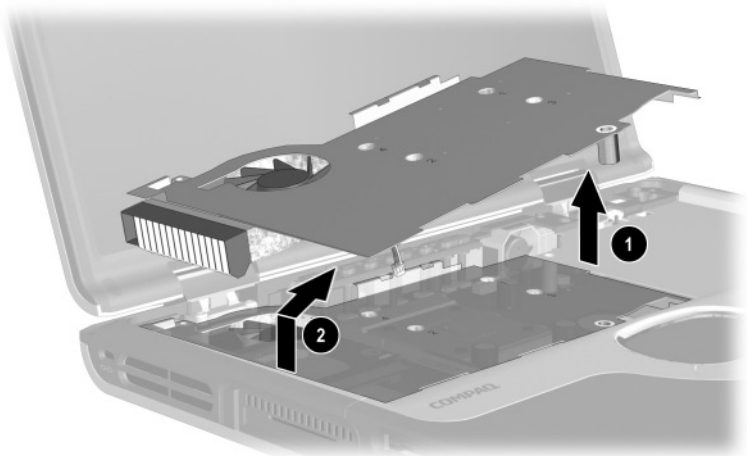

Figure 5-22. Removing the Heat Spreader
7. Lift the right side of the heat spreader until it rests at an angle ❶ (Figure 5-22).
8. Slide the heat spreader to the right at an angle ❷.